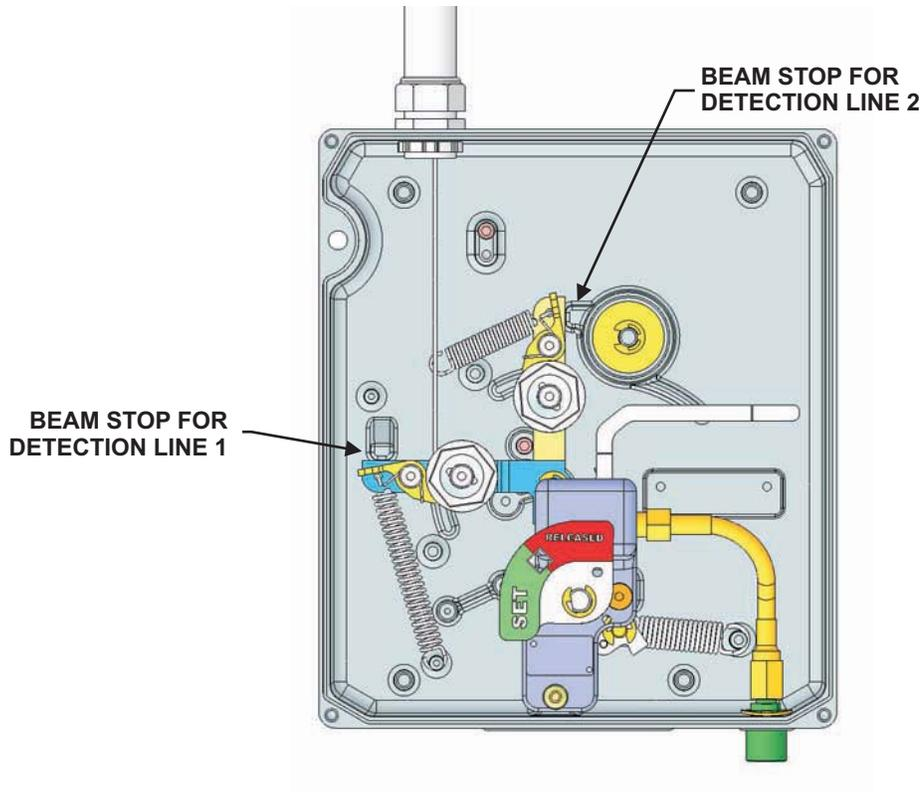

Figure 5-8. Positions of Ratchet Stops in 'Set' Position
- c. Using a 7/8-inch socket (or equivalent), carefully ratchet up the slack in the control cable lines (see Figure 5-8). Tighten the line until the beam reached the stop. **Do not overtighten.**